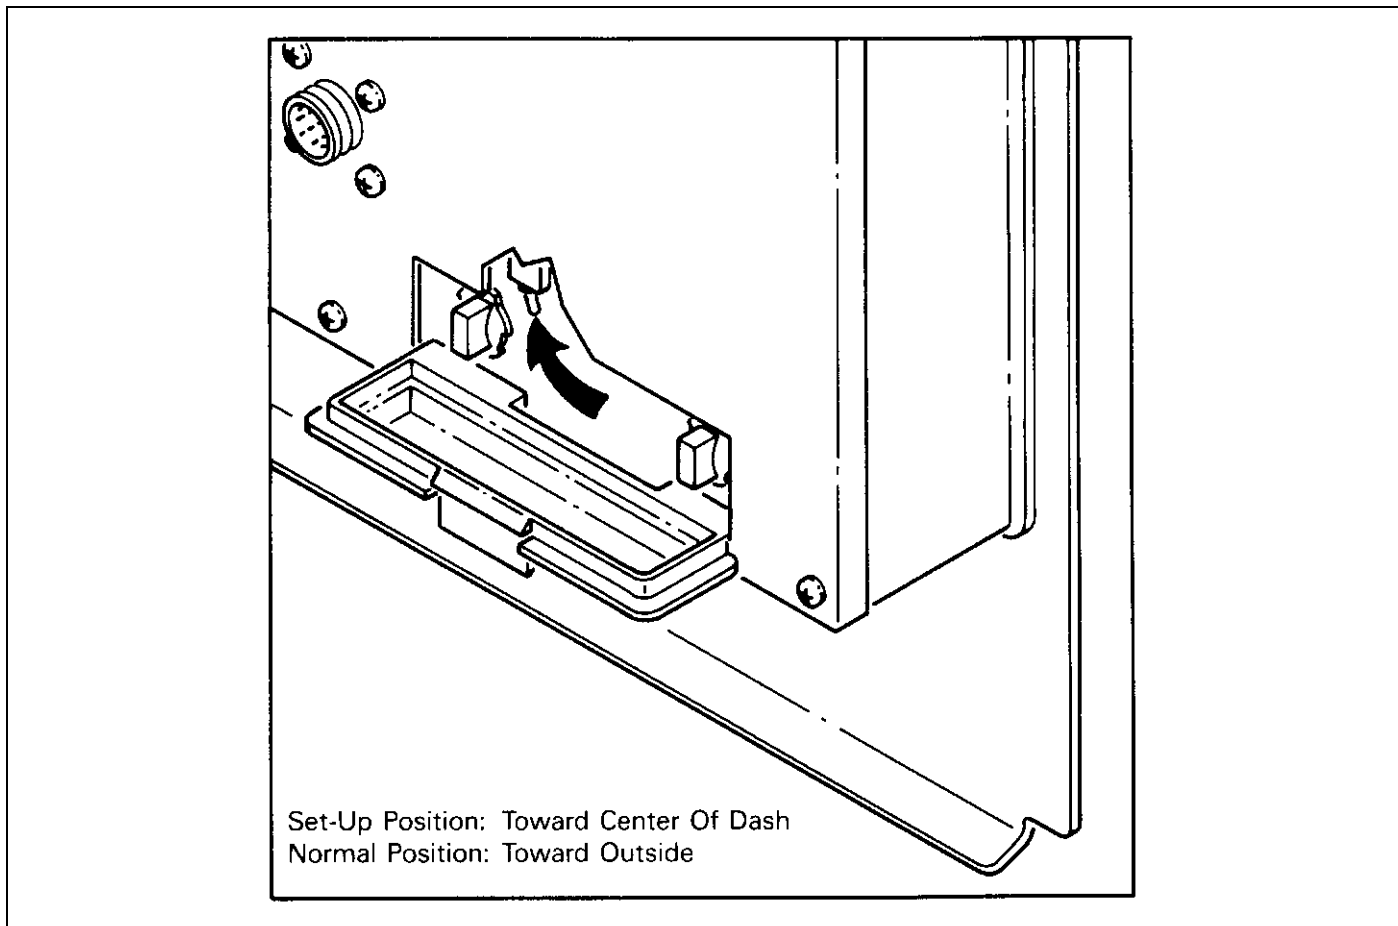

Figure 14-4 Location of Toggle Switch
3. With the key switch in the Off position, switch the toggle lever from the Normal (as you received it) to the Set Up position. (See Figure 14-4 on page 22.)